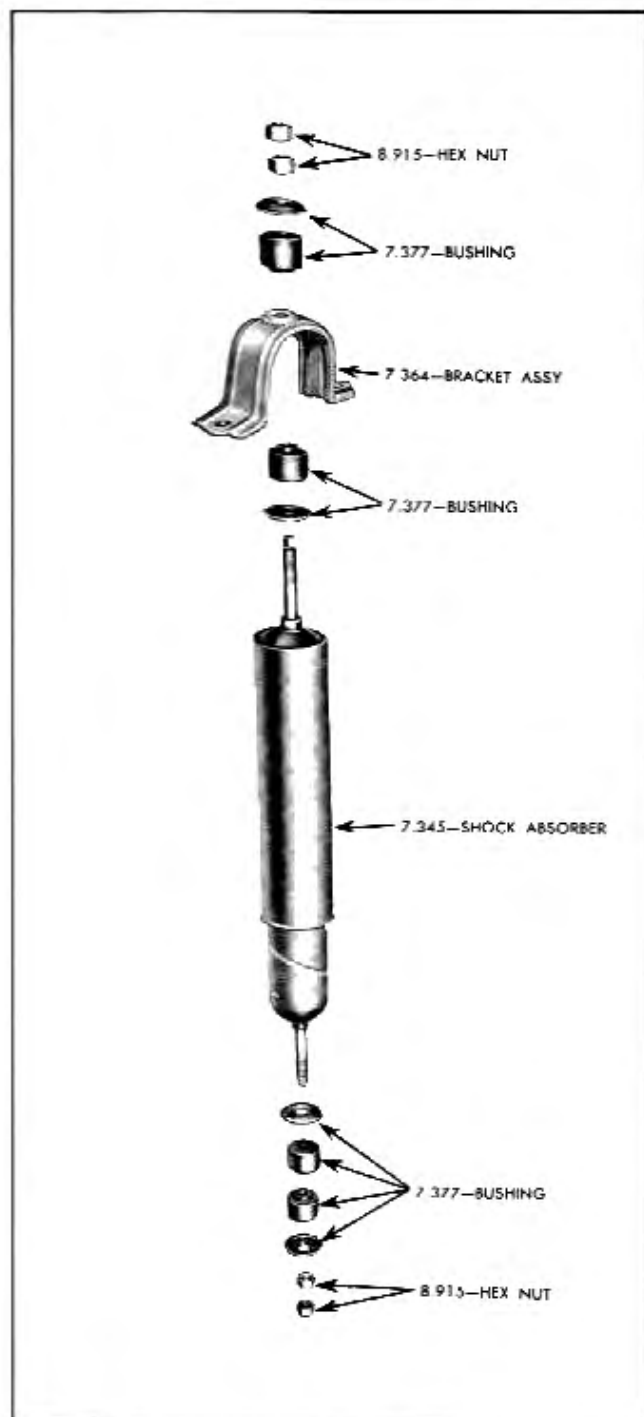

Fig. 3-15 Front Shock Absorber and Mounting Parts
8. Install new shock absorber and bracket by reversing the procedure in Steps 1 through 6. Make sure all grommets and retainers are correctly installed (see Fig. 3-15 for details of mounting).